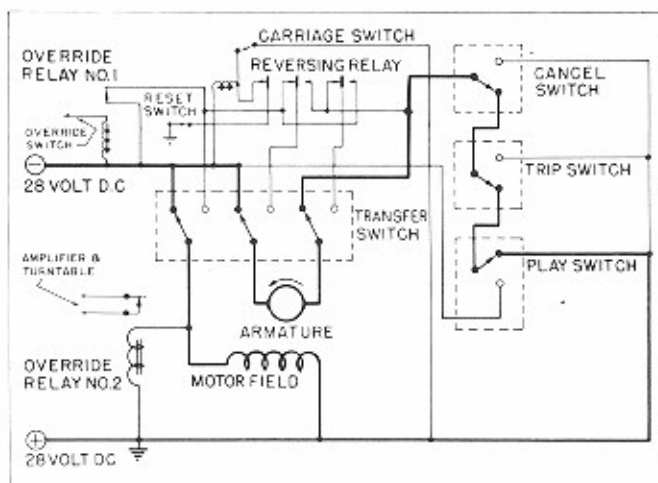

Fig. 49 PHASE 4 - TRANSFER SWITCH
d. Phase 4 -- Transfer Switch. (Fig. 49)
An examination of Figure 49 shows the changer motor circuit following the operation of the transfer switch. Although the two motor circuits have been maintained without interruption and in the same polarity as shown in phase 3, the initial switching components have been entirely isolated.
cam turning in a counter-clockwise direction. After it has turned a few degrees, the play switch lobe operates the actuating arm to release the play switch. At this point the play switch is in position to take over the trip switch function as the tone arm swings away from its trip position. At this time, with the exception of the over-ride relay No. 1 circuit, the electrical condition is again as shown in Figure 49.